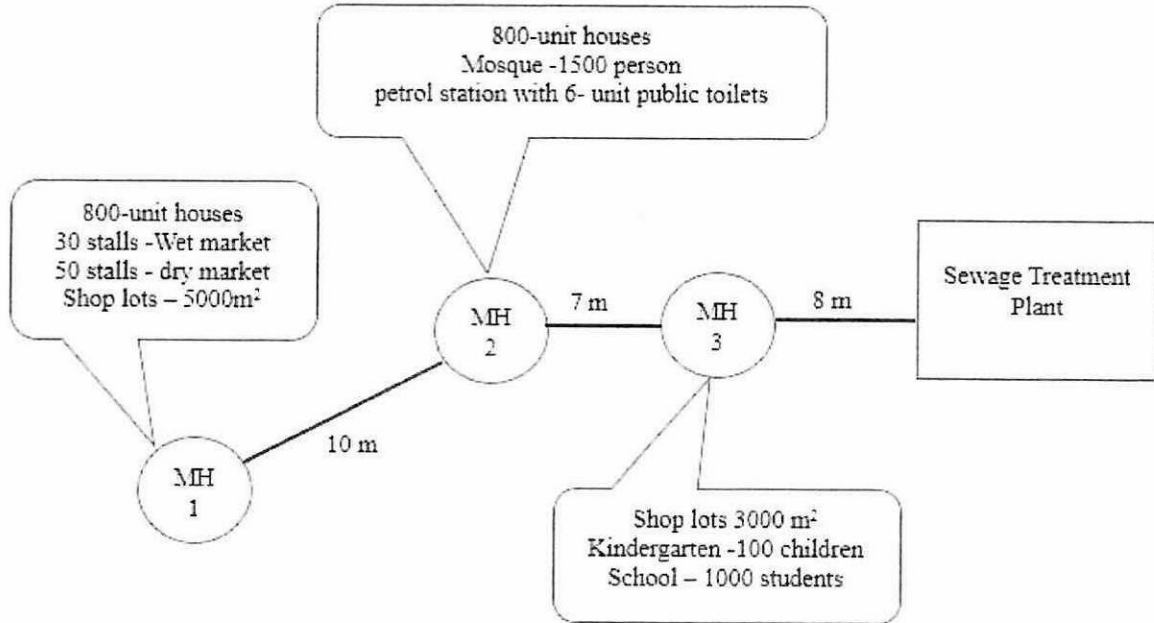

Figure Q1.1 This figure shows the sewerage reticulation plan.
- Q1** (a) With the aid of sketches, explain **TWO (2)** differences between separate sewerage system, and combine sewerage system. (6 marks)
- (b) A sewerage reticulation plan for Taman Parit Raja as shown in **Figure Q1.1**.
- (i) Based on **Figure Q1.1** and **Table Q1.1**, calculate total population equivalent (PE) for the proposed sewerage reticulation plan.
- (ii) Based on **Figure Q1.1**, recommend a sewerage reticulation system for MH1 to MH2 using new vitrified clay sewer ($n = 0.010$) running at full flow condition. Assume ground level and upper invert level are 25.200 m and 24.055 m, respectively.